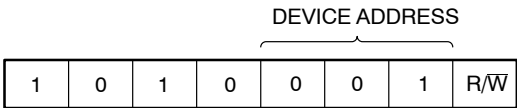

Figure 4. Slave Address Bits
The Master initiates data transfer by creating a START condition on the bus. The Master then broadcasts an 8-bit serial Slave address. The first 4 bits of the Slave address are set to 1010, for normal Read/Write operations (Figure 4). The next 3 bits are set to 0 0 1. The last bit,  $R/\overline{W}$ , specifies whether a Read (1) or Write (0) operation is to be performed.